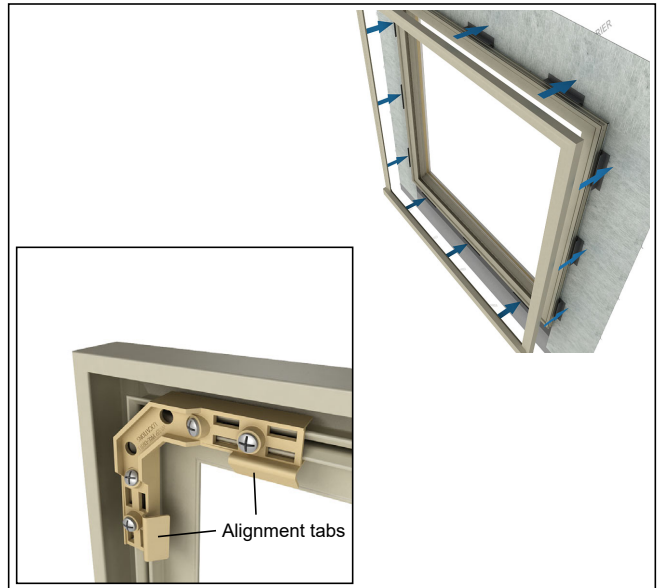

Figure 18
6. Press casing assembly onto connection bars by lining up all corners with the corner key alignment tabs. Press firmly (20-40 pounds of pressure) around the entire casing assembly until it is seated fully on frame. **Do not use excessive force, mallets, hammers, etc.** See *figure 18*.